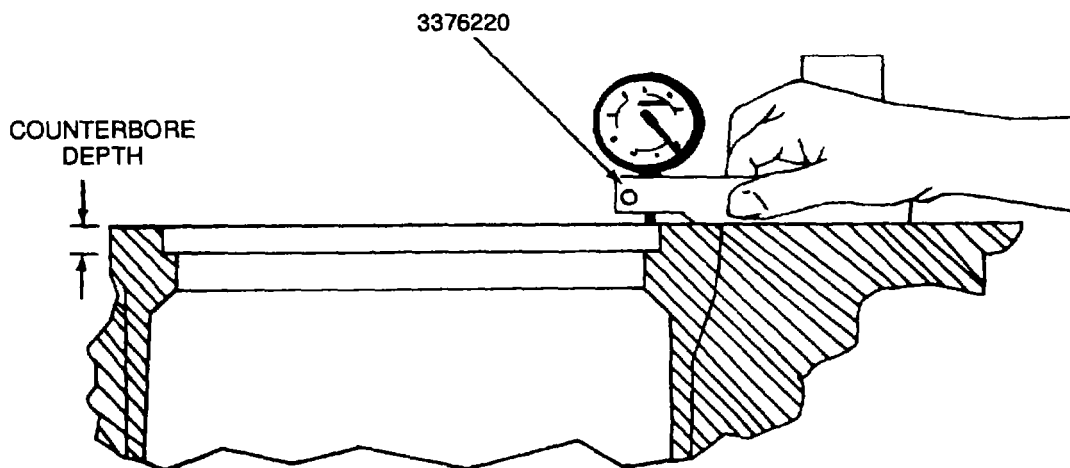

Figure 9-37. Checking Cylinder Block Counterbore Depth
- (2) Remove the cylinder liner (27, Figure 9-24) from the cylinder block (58) in accordance with step a(3), above, and check the counterbore depth (Figure 9-37) in the block using 3376220 or a depth micrometer.